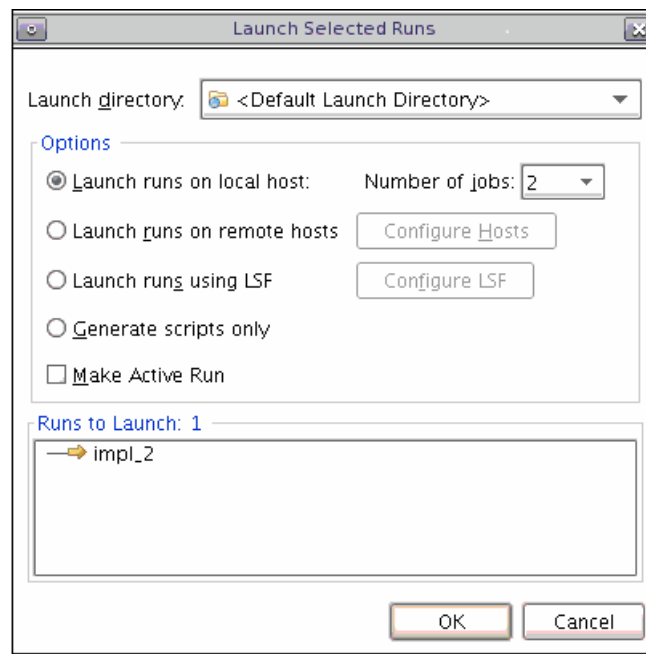

Figure 2-11: Launch Selected Implementation Runs
2. Select **Launch Runs** to open the Launch Selected Runs dialog box, shown in Figure 2-11.